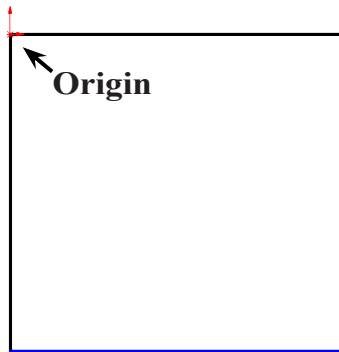

Fig. 2
Step 4. Sketch corner rectangle starting at the Origin , **Fig. 2**.